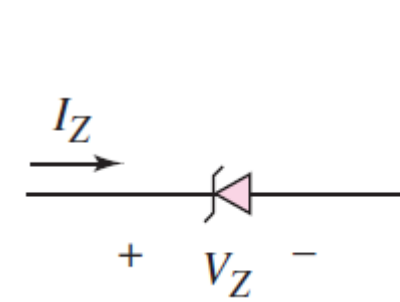

Figure 1.44
- The circuit symbol of the Zener diode is shown in Figure 1.44.